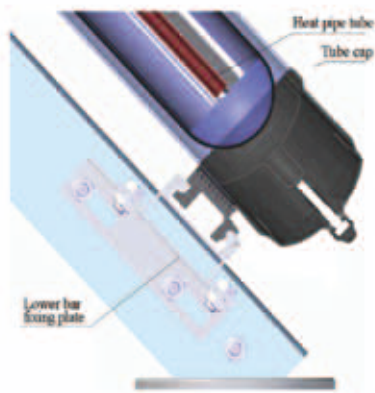

Fig. 6
Run in the upper protection ring at the condensing end of the heat pipe vacuum tube, apply heat conducting silicon grease to the condensing end of the tube and then insert the condensing end of the inner tube into the water tank's heat conducting sleeves, see Fig 6.
Run in the tail seat retention ring at the tail end of the heat pipe vacuum tube and fit the tail seat retention ring to the lower horizontal linkage rod as shown in Fig.6. Then fit the tail seat adjusting ring to the retention ring by turning the former; while turning, apply appropriate force to lift the heat pipe vacuum tube
①Filling water: The heater is filled water by pressure and free of filling device (Fig.6), water will be automatically filled till fullness and then stops.
②Using water: Water can be used under pressure.